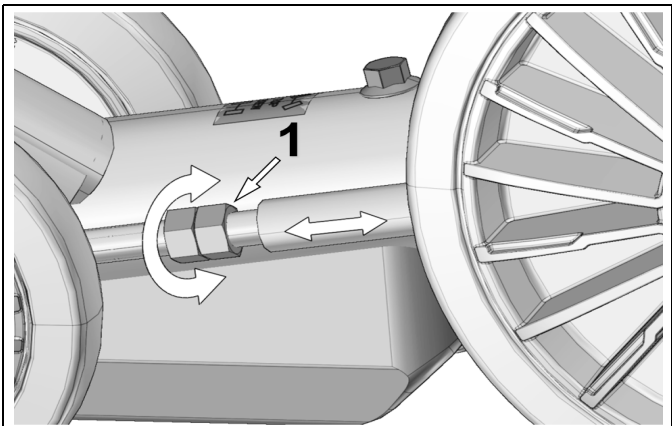

Figure 24
Loosen jam nut and turn adjusting nut (1) to set track tension. See Figure 24.